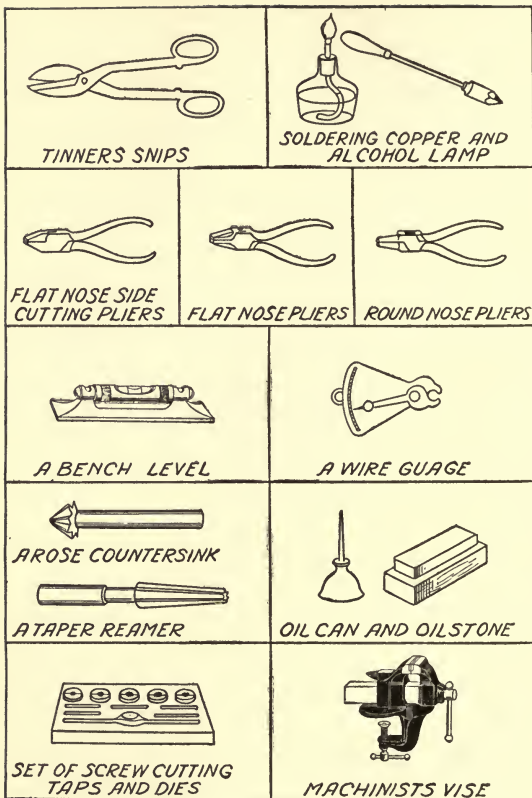

FIG. 27. THE CHIEF METAL WORKING TOOLS
round in shape and the *smooth* and *second cut* will be the most useful; (16) several screw drivers, small and large; (17) a soldering copper that weighs about $\frac{1}{2}$ a pound; (18) a can of soldering paste, or you can make a soldering fluid yourself, and (19) an alcohol lamp, which I told you how to make in the last chapter, or a Bunsen burner if you have a supply of gas, and (20) a machinist's vise. All of these tools are shown in Figs. 27 and 28.